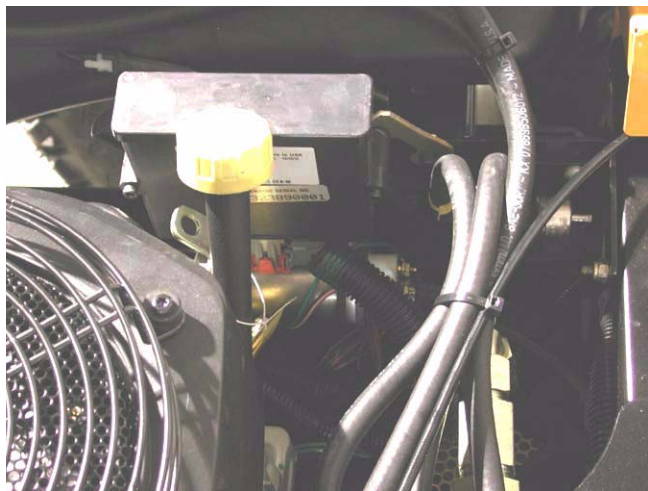

Figure 11.10
- 11.10. The plastic-cased ECU is mounted to the frame, above the fuel pump. See Figure 11.10.